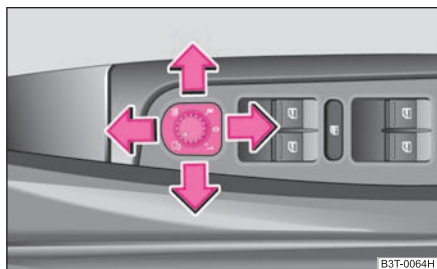

Fig. 61 Inner part of door:
- Turn the rotary knob to position ⇒ fig. 61.
When the rotary knob is in position **R** ⇒ fig. 61 and the reverse gear is engaged, the surface of the mirror tilts down slightly. This provides an aid in seeing the kerb of the pavement when parking the car.